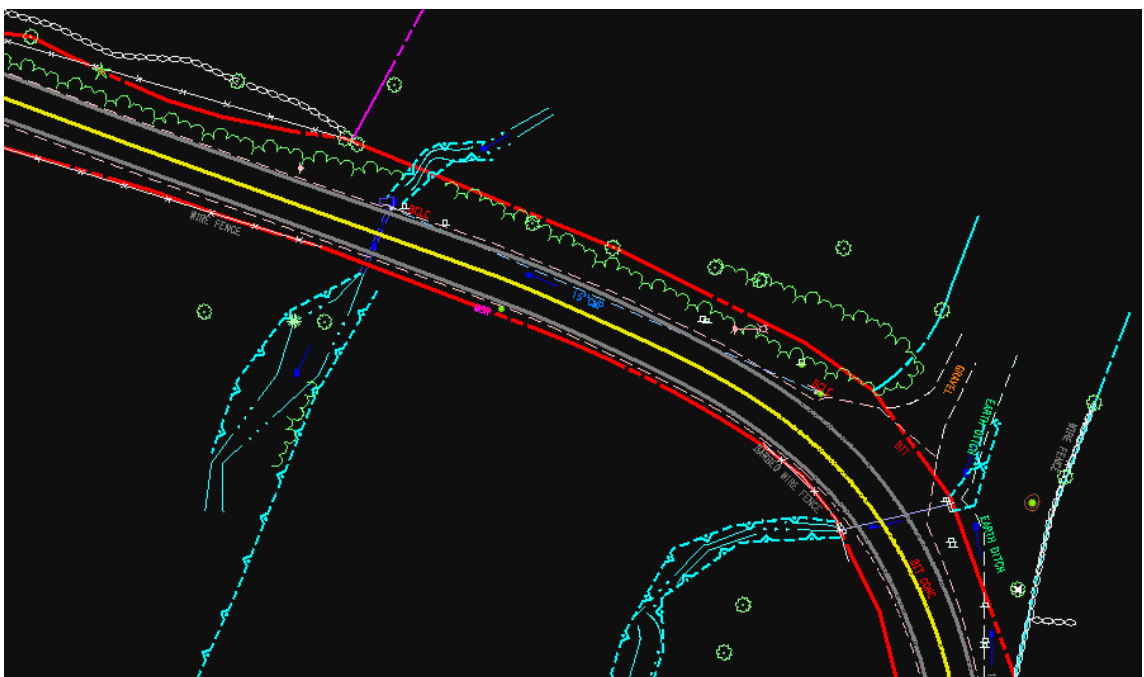

Figure 2-8 MicroStation View of InRoads Generated Features
- N. Right Click within the **Features:** box in the interface window and click on **Select All**, then click **Apply**. Figure 2-8 shows all the features in an existing DTM.